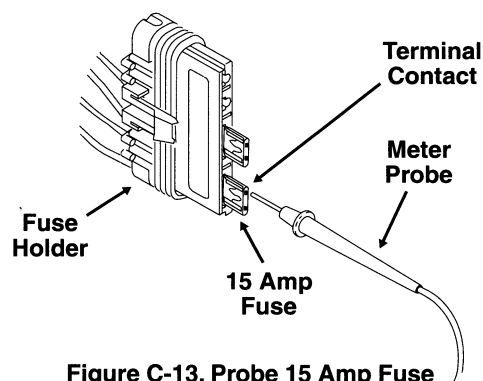

Figure C-13. Probe 15 Amp Fuse
④ Use Harness Connector Test Kit (HD-41404), black socket probe and patch cord.
⑤ Connect Breakout Box (HD-41198) to EFI wire harness **only** (leave ECM disconnected). See Breakout Box Installation, page C-12.
⑥ Touch meter probe to contact at top of fuse. See Figure C-13. If no power through the fuse, then fuse is blown. Probe the contact on the outboard side - if no power to the fuse, then look for a broken or damaged wire.
⑦ See Electronic Control Module (ECM), Removal/Installation, page 9-77 of the 1998 FLT Service Manual.